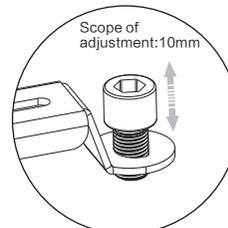

figure 18
4. Rotate the adjustable nut (4-4) for adjusting the height of installation arms (4-2) if the installation holes are not at the same level as figure 18.